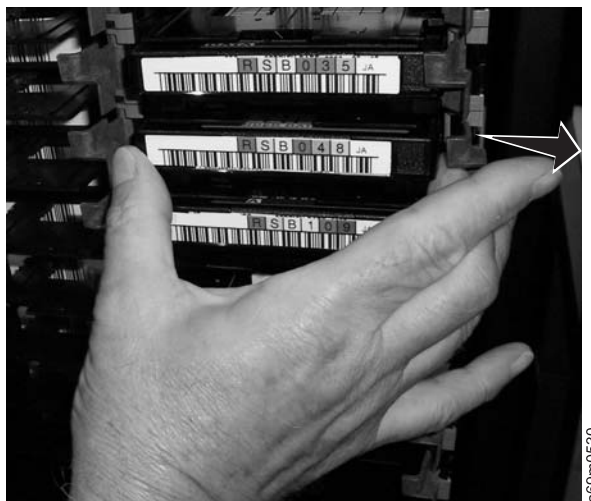
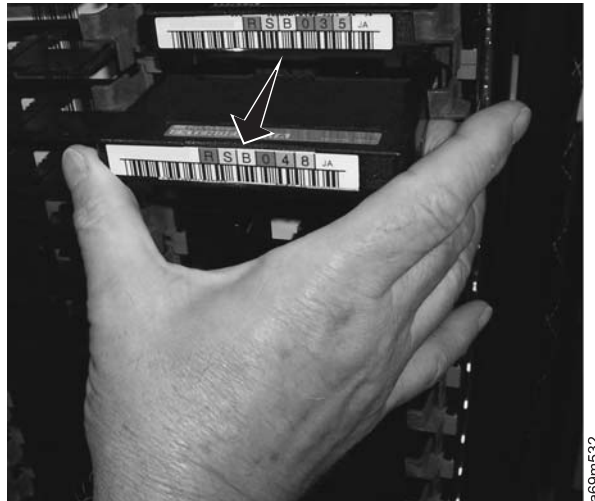

Figure 41. 3592 HD slot gate release
Figure 42. 3592 cartridge removal from an HD slot
- a. See Figure 41. Use the middle finger and thumb on your right hand to grab the cartridge as shown. Apply outward pressure with the middle finger to open the cartridge gate assembly as you release and slowly remove the cartridge as shown in Figure 42 on page 91.